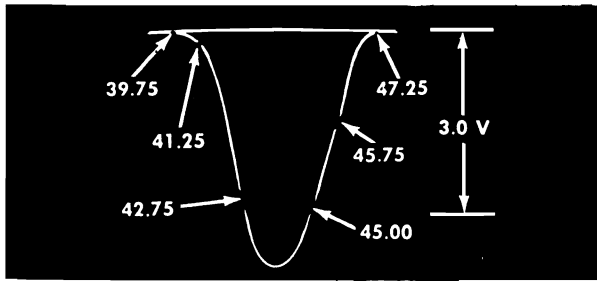

Fig. 8 Overall IF Response Curve.
6. Disconnect the jumper between "E" and the bottom end of the 68 ohm cathode resistor. Connect this jumper between "E" and the chassis. Adjust sweep generator for 3 volts peak to peak output at the second detector. Alternately, adjust the 2nd, 3rd, 1st IF and the converter plate coil until an overall response similar to Fig. 8. is obtained. It will be found that the 2nd IF affects the low side (42.75 Mc) and the 3rd IF the high side of the response. Remove jumpers after alignment is completed.
6. Disconnect the jumper between test point "E" and chassis. Apply negative 6 or 7 volts bias to test point "E", positive lead to chassis ground. Adjust sweep generator for 3 volts peak to peak output as shown on the oscilloscope (output of Picture Detector). Alternately, adjust the 2nd, 3rd and 1st IF coils and the converter (mixer) plate coil until an overall response similar to Fig. 8 is obtained.